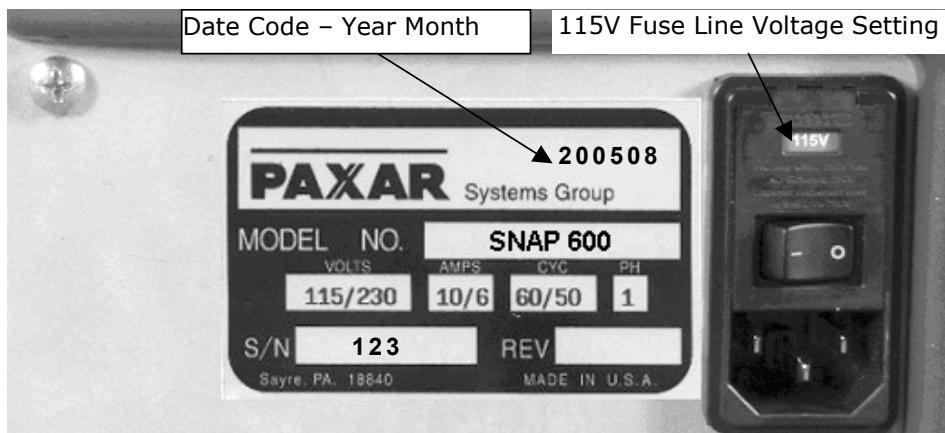

Figure 5. Right Side of Printer – Rear View
The main fuse(s) on the AVERY DENNISON SNAP 600 printer are located inside the AC power entry receptacle on the backside of the printer (see Figure 5). The AC power entry has a fuse drawer that holds the fuse(s) and selects the appropriate line voltage.
1. Locate the AC power entry receptacle on the backside of the printer just below the power switch (see Figure 5).